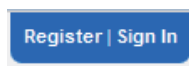

Figure 86. Sign In/Sign Out Button
10. If available, click the Sign In button in the upper left corner of the page to sign in (see Figure 86). Return to the ePDU home page. (The Sign In button will not be available if you are already logged in. The button selection will be “Sign Out” instead of “Sign In.”)